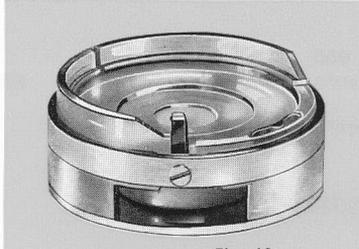

Fig. 10
- Feed ring with dry cell, fig. 10 (for complete movement).